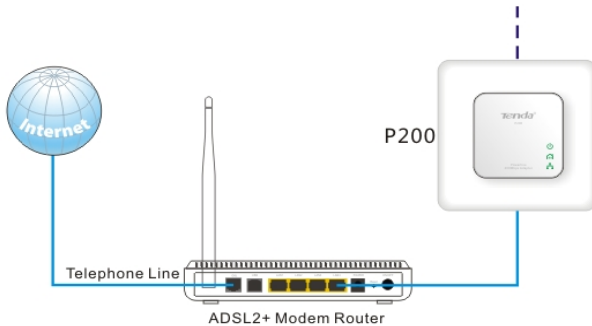

Figure 1-5 Network Connection
1. Connect a Powerline adapter, say, Tenda P200, to an Internet-enabled Router and then plug it into a wall outlet as seen in figure 1-5: